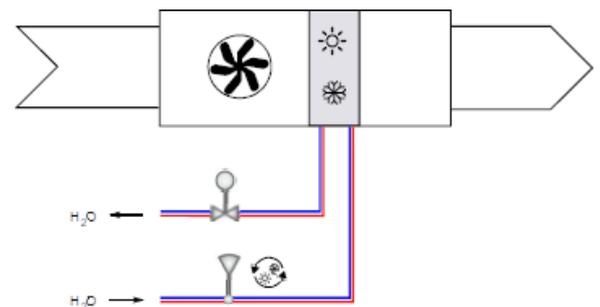

Figure 2-1 A two pipe system
- This control mode is suitable for room HVAC systems that use a 2-pipe fan coil as heating and cooling device (see Figure 2-1). A change-over function makes it possible to use the thermostat in a 2-pipe changeover system, where warm or cold media flow in the same pipes and one valve is used to regulate both heating and cooling distribution.